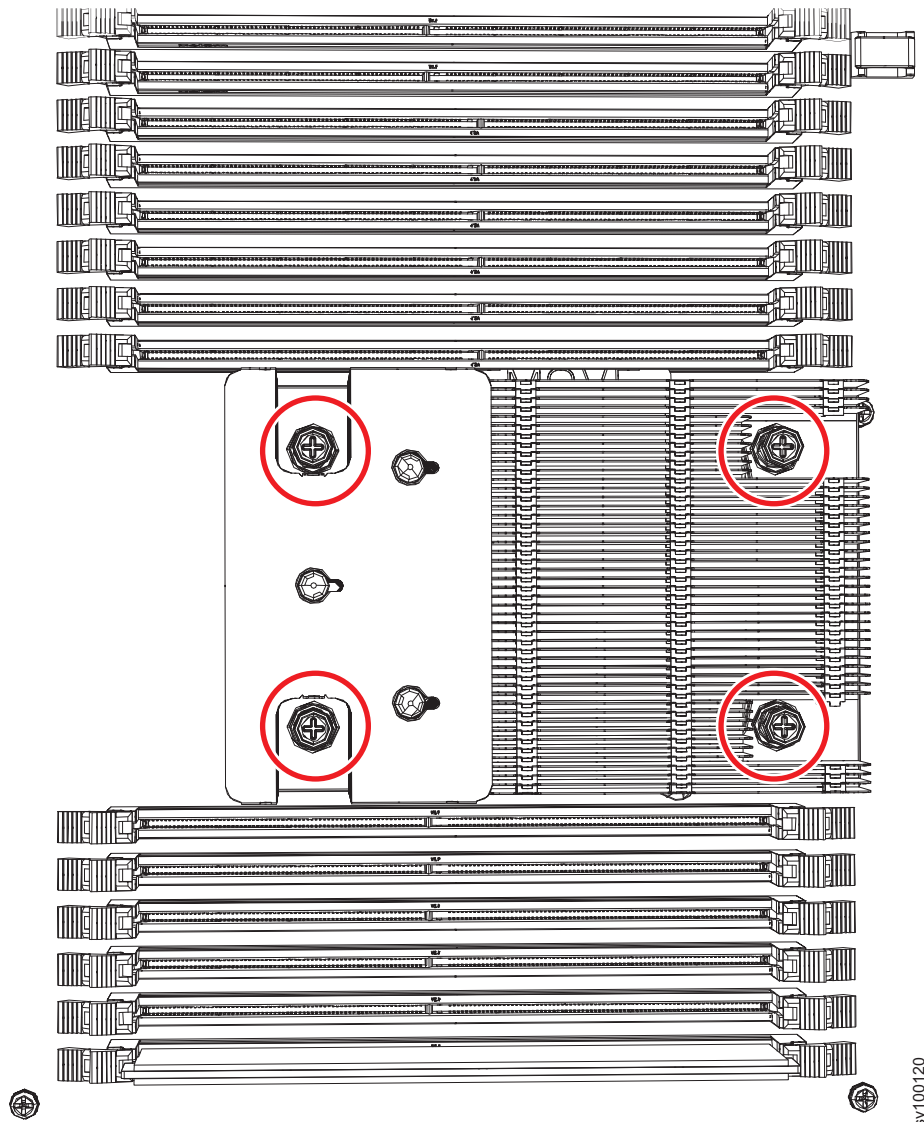

Figure 186. Removing the heat sink
1. Undo the heat sink retention screws, as shown in Figure 186.